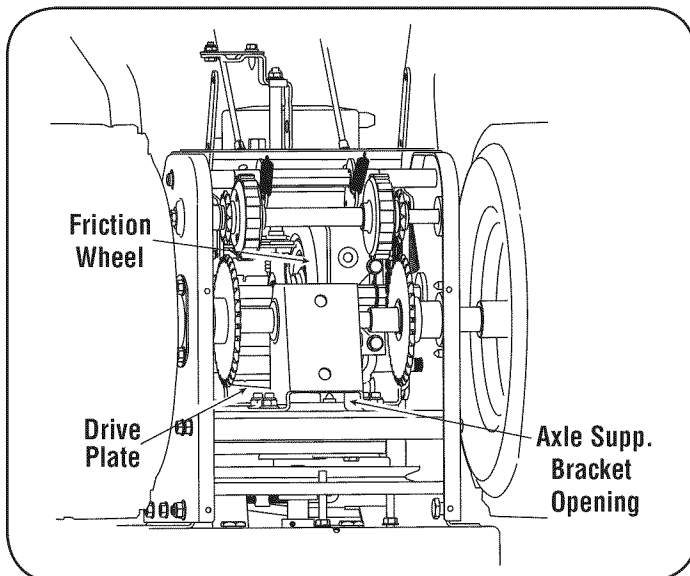

Figure 28
2. Locate the opening between the axle support bracket and the front frame support (See Figure 28). Looking through this opening, with the wheel drive control released, there must be clearance between the friction wheel and the drive plate in all positions of the speed selector lever.
3. With the wheel drive control engaged, the friction wheel must contact the drive plate. See Figure 28.